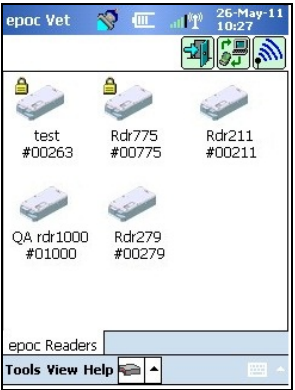

Figure 3
3. While maintaining downward pressure, use the index finger of your other hand to steadily depress the Syringe Plunger with a single, smooth, continuous motion until prompted to stop (**Figure 3**).